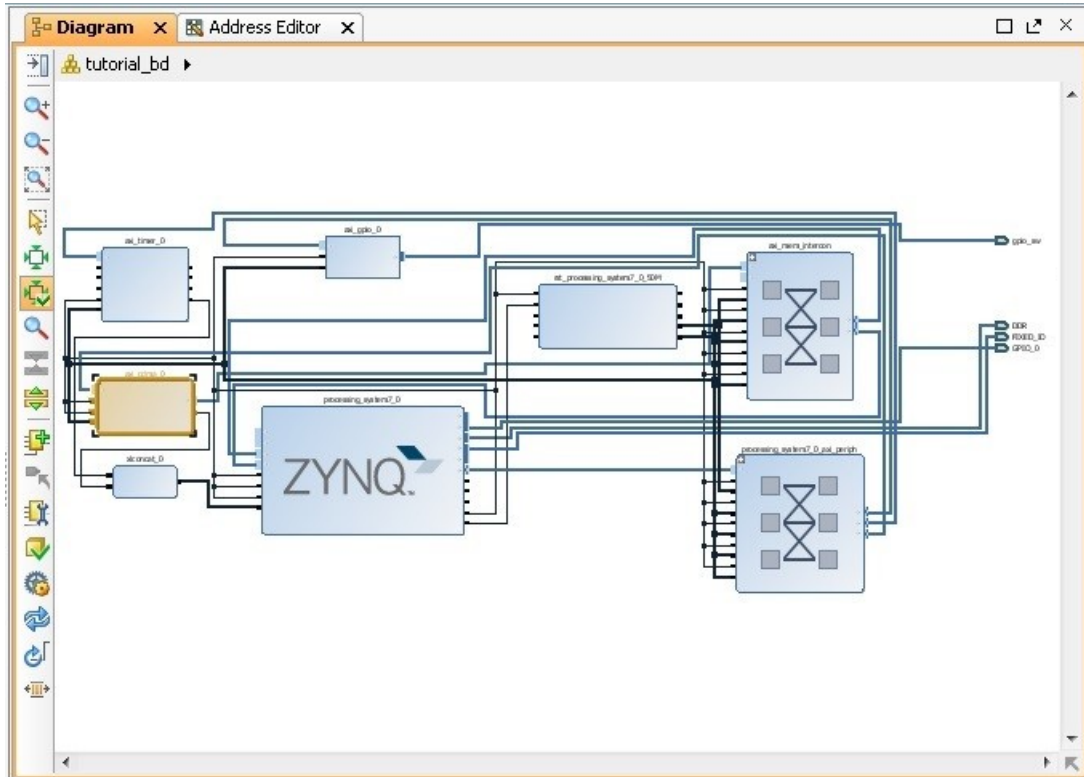

Figure 5-2: Updated Block Diagram
19. In the Run Connection Automation wizard view make sure the All Automation box is checked, then, click **OK** to accept the default connections. The finished diagram should look like Figure 5-2, page 51.